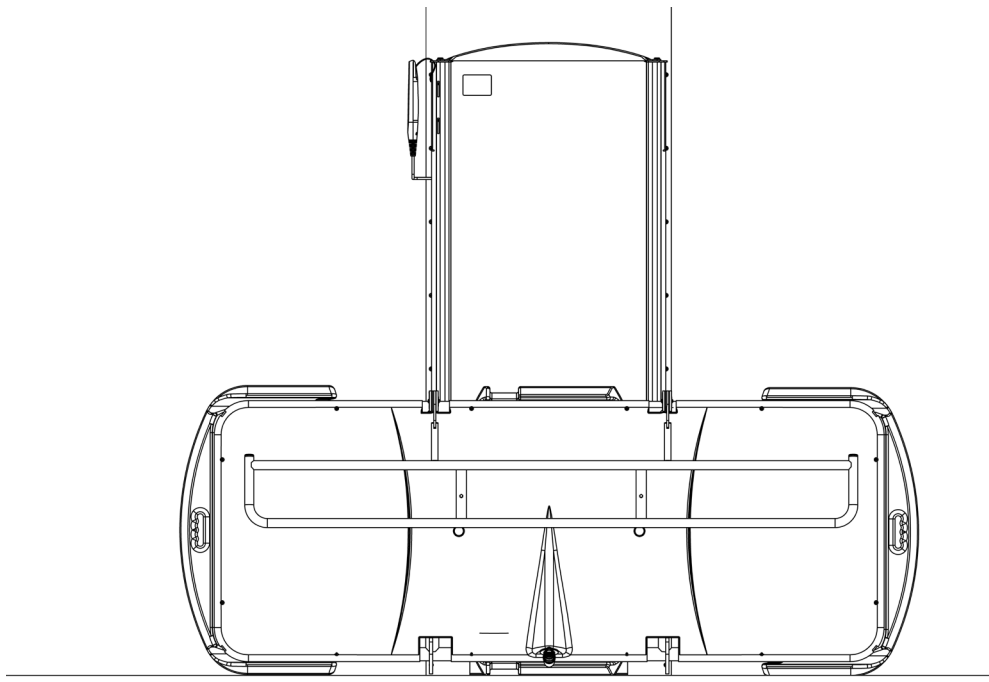

Fig 12.6b
- Bring the stretcher towards the product and rest as shown in Fig 12.6b.